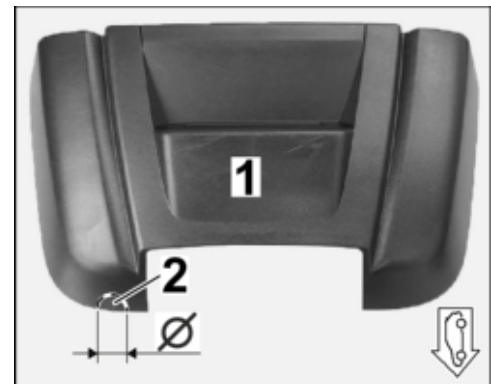

Figure 14
2.4 **ONLY** for RoW vehicles: Make groove for mounting plate wiring harness in rear-view mirror (interior ⇒ Figure 14) cover.
2.4.2 Check front camera wiring harness routing from mounting plate to roof and mark position of outer wiring harness on antenna cover. ⇒ Figure 14 -2-